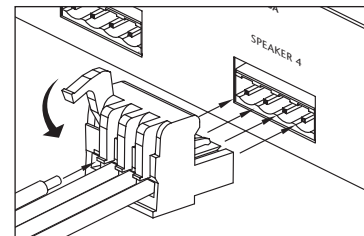
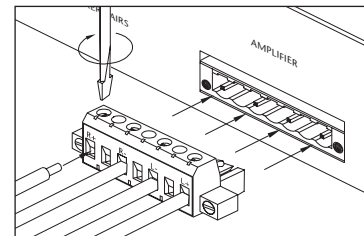

Figure 2
Figure 4
3. Locate the connector plugs (and remove them if they are plugged in). See (Figure 2) and (Figure 4).
- c. Insert the smooth side of the connector plug into the smooth side of the socket. Don't force the scalloped side of the connector plug into the smooth side of the socket. See (Figure 2).
- c. Insert the connector plug into the socket and lock in place by tightening captive screws on each side of connector. See (Figure 4).